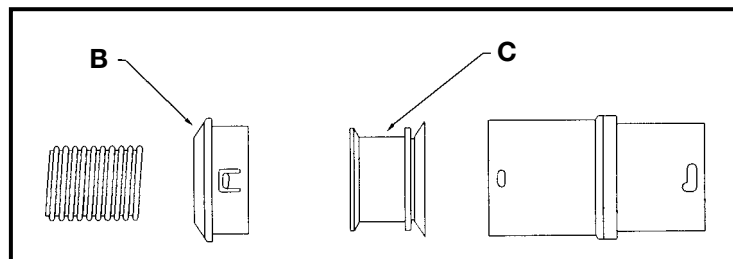

Fig. 4B
- C. Grasp hose in one hand and mounting hub (C) Fig. 4B in the other. Rotate the mounting hub clockwise (left-hand thread) to remove it from the hose.